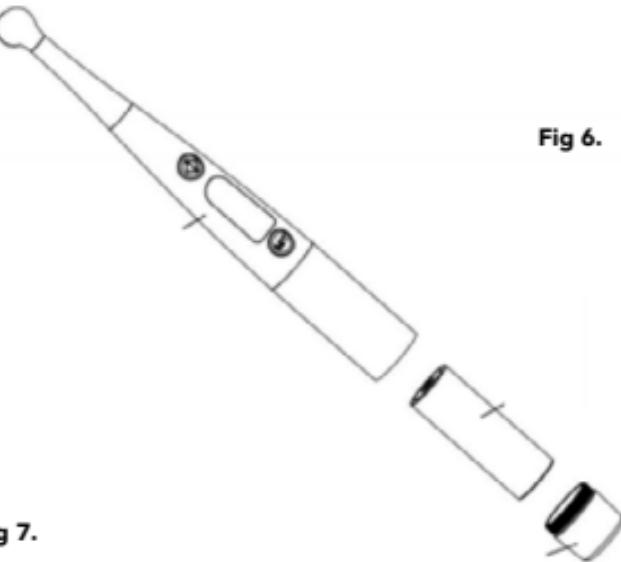

Fig 6.
- As shown in Figure 6 below, when the battery of the handle is dead or needs to be charged, put the battery compartment of the handle into the one connected to the power supply